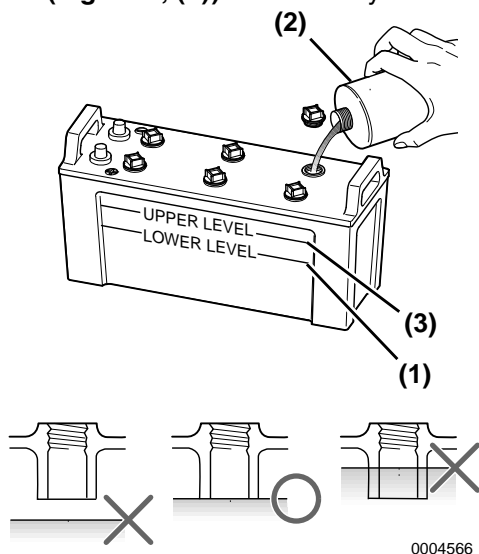

Figure 7
4. If the electrolyte level is lower than the minimum fill level (**Figure 7, (1)**), fill with distilled water (**Figure 7, (2)**) (available locally) up to the upper limit (**Figure 7, (3)**) of the battery.